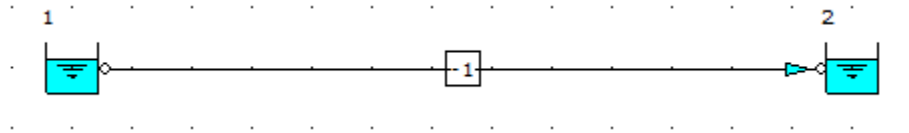

Figure 30: Converged Hydraulic Model
30. Check the converged hydraulic model in the flowsheet. The blue arrowhead shows that the flow direction is from the higher pressure node 1 to the lower pressure node 2. Also, check if the pipe is highlighted in **RED**, indicating that we have a warning message associated with the pipe element (Figure 30).